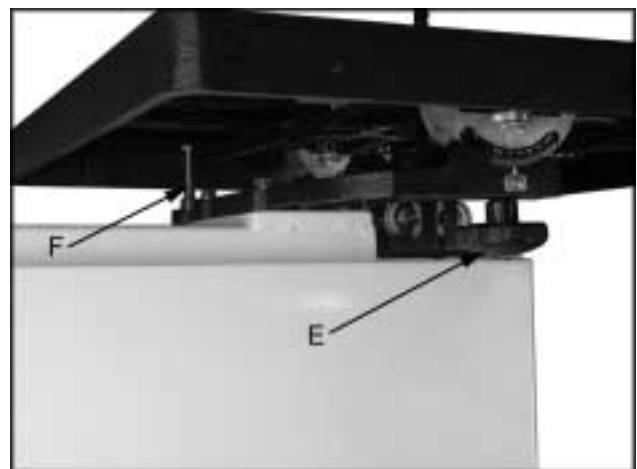

Fig. 14
2. Loosen the lock knobs (E, Fig. 14).
Note: Table stop bolt (F, Fig. 14) must be removed to tilt table to the left.